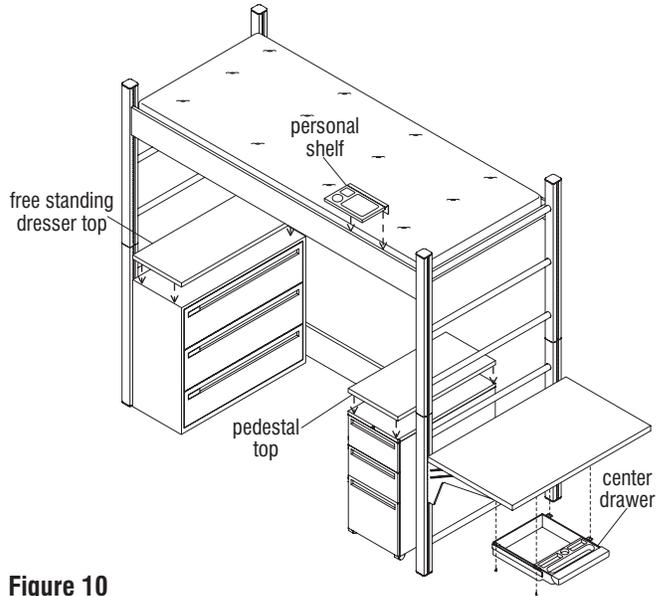

Figure 10
1. The personal shelf can be hung anywhere along a bed unit with a side rail (Figure 10).
1. Locate the two-sided tape at the underside of dresser/pedestal top. Remove the backer from the tape, then carefully position the top onto the dresser/pedestal, aligning all edges. Press down to secure in place (Figure 10).
1. Center drawer (Figure 10) installs under a worksurface. See instructions on page 18.